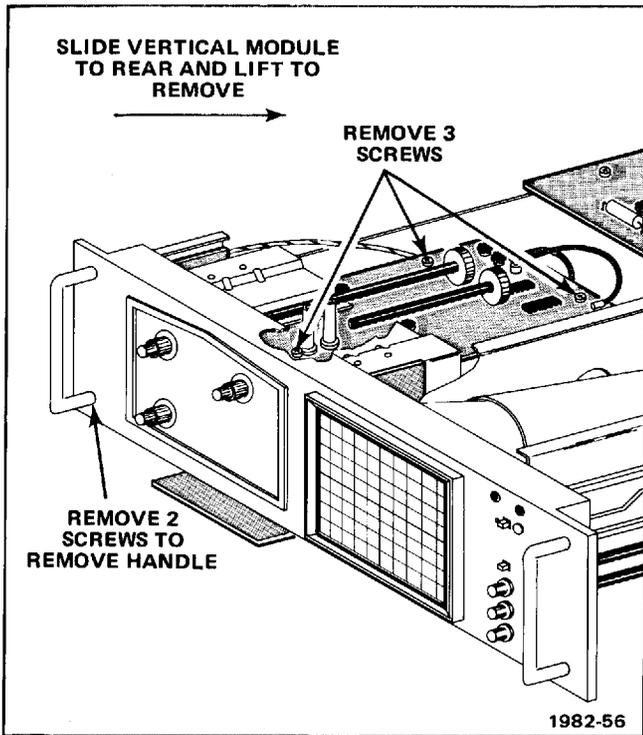

Fig. 5-10. T922R vertical module replacement.
6. Remove three screws (see Fig. 5-10). Remove vertical module by sliding it forward slightly, lifting the rear to clear the power supply, then sliding it back and out of the instrument.